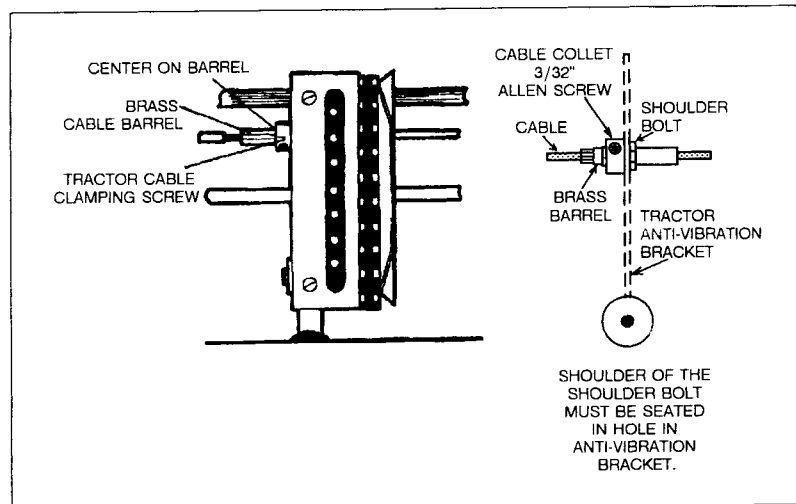

Figure 6-36. Positioning Tractors on Cables
- a. Switch the printer offline and the ON/OFF switch to the OFF (0) position.
- c. Loosen the 3/32" Allen screw from the split collars and unscrew the split collar from the split nut on both upper and lower RIGHT tractors (see Figure 6-36, detail D).
- Switch the printer offline and the ON/OFF switch to the OFF (0) position.
- Loosen the 3/32" Allen screw from the split collars and unscrew the split collar from the split nut on both upper and lower LEFT tractors (see Figure 6-36).